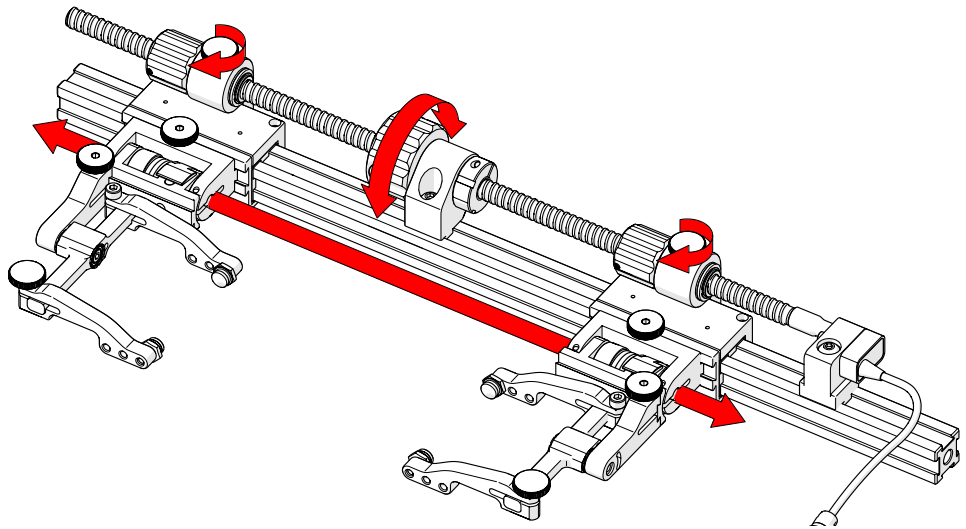

Fig. 173 - Simultaneous slider positioning
3. Ensure the slider knobs are tight and rotate the main knob to position both sliders simultaneously (*Fig. 173*).